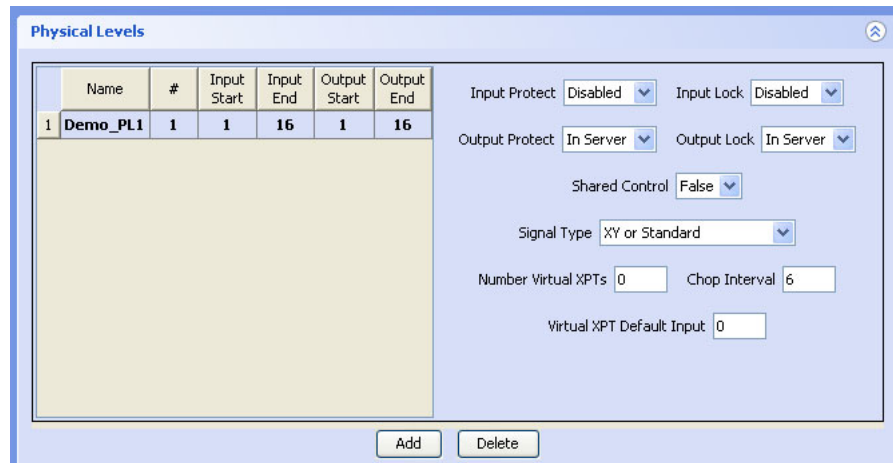

Figure 7-22. Physical Level Section - Levels Area
- 4 The 'Physical Levels' section has two parts, as shown in Figure 7-22. On the left is a table of physical levels. On the right are miscellaneous parameters and options.